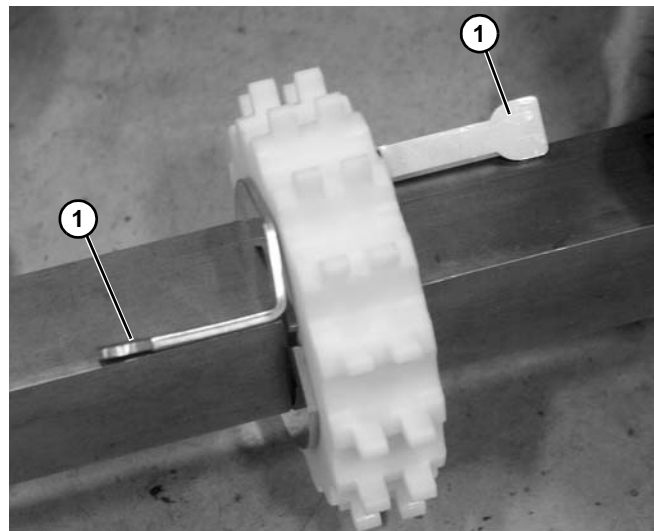

**Figure 66**
*Make note of the position of the sprockets and orientation of retaining ring in the latched position as shown in (**Figure 66**) before removing.*